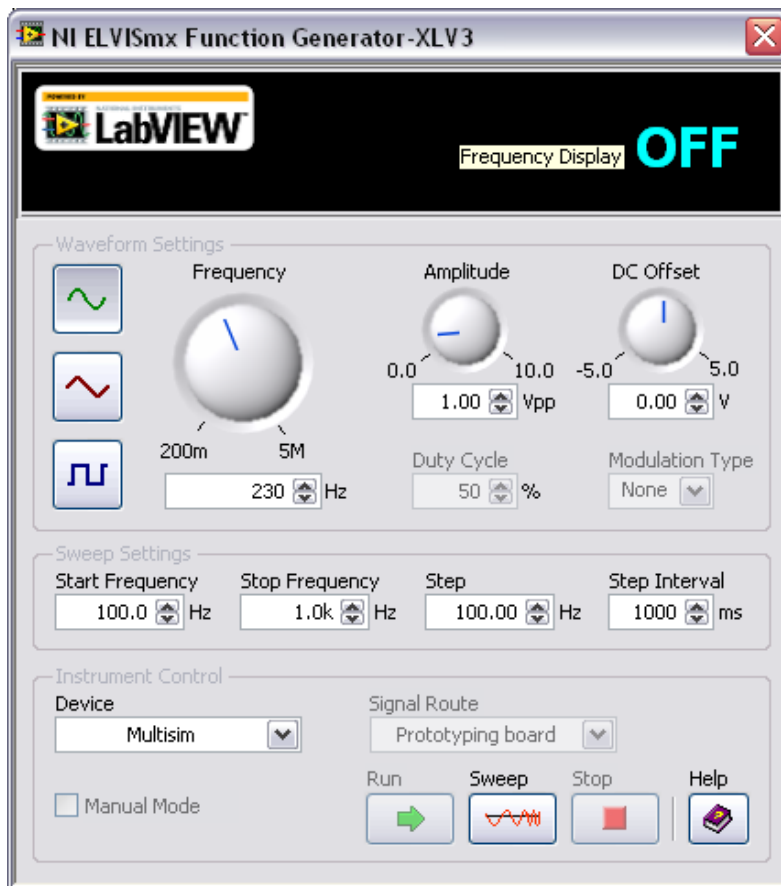

Figure E3-6. Function Generator Soft Front Panel
- e. The function generator soft front panel should pop up, it should look similar to Figure E3-6 below. Change the Frequency to 230 Hz, the amplitude to 1V, and make sure the function generator is generating a sin wave.